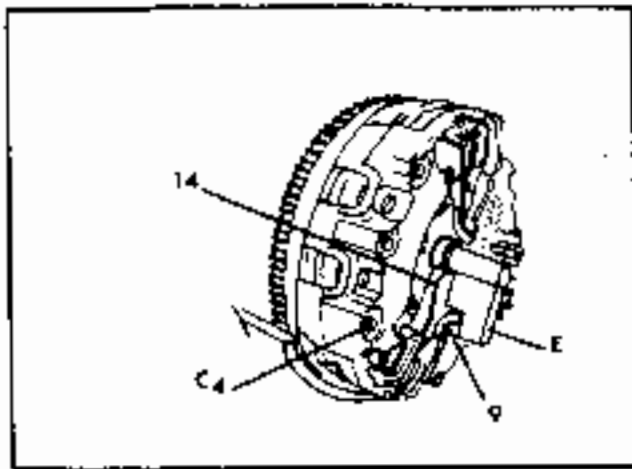

FIG. B.119 FITTING CLUTCH TO FLYWHEEL AND ADJUSTING 11" CLUTCH THROW OUT LEVERS
1. With the clutch fitted on the flywheel, using the clutch adjusting tool (E, Fig. B.119). Long Part No. 772242, adjust both the main clutch and P.T.O. clutch throw-out levers. Correct setting is for throw-out levers end to contact surface of adjusting tool.